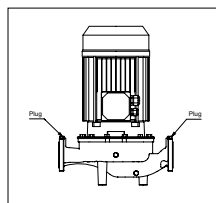

FIG 4: Plugs required to check the filling of pumps
- a) Remove the plug/hexagonal cap located on top of the pump casing (FIG 4);